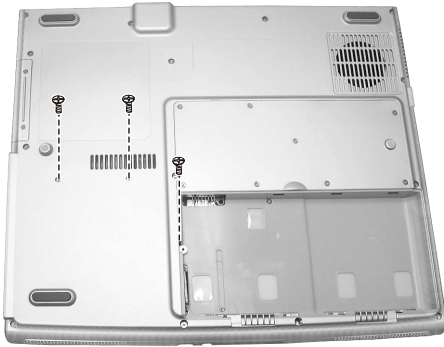

Figure 2-12 Remove three screw
2. Remove Three screw fastening the CD/DVD-ROM drive. (Figure 2-12)